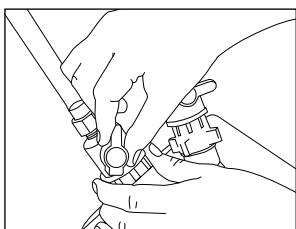

fig 19
- Make sure BOTH taps are fully open (fig. 19).